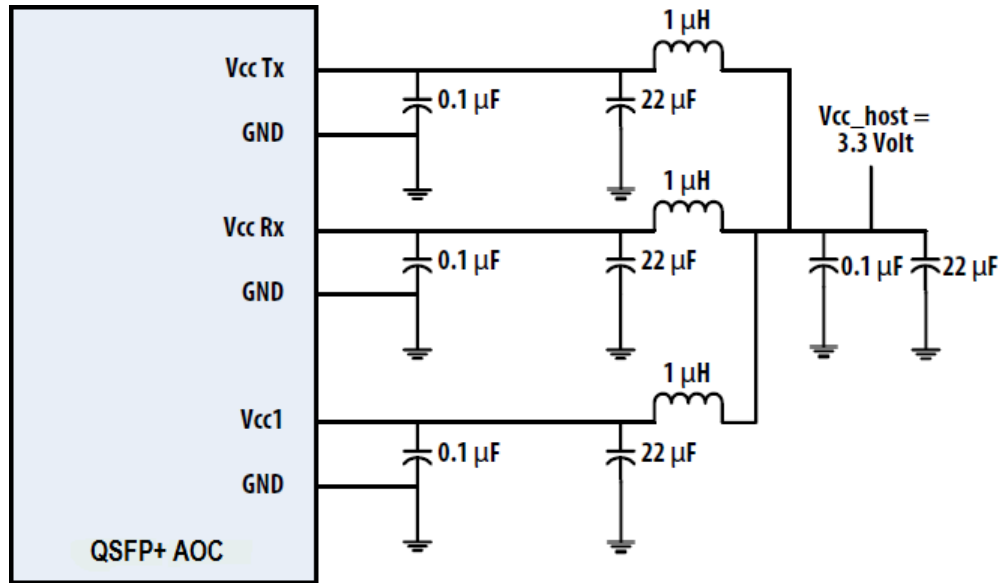

Figure 4. Recommended Power Supply Filter for QSF28 Terminal
2. VccRx, VccI and VccTx are the receiving and transmission power suppliers and shall be applied concurrently. Recommended host board power supply filtering is shown in Figure 4 below. Vcc Rx, VccI and VccTx may be internally connected within the QSFP28 transceiver module in any combination. The connector pins are each rated for a maximum current of 1000mA.